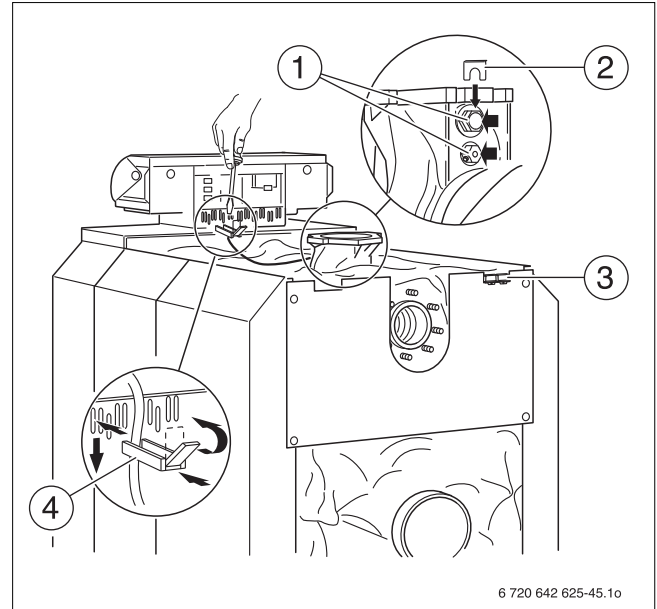

Fig. 53 Fastening the connecting cables
- ▶ Guide the capillaries to the corresponding sensor wells and secure with the clips (magnified view in Fig. 53 is rotated by 180°).